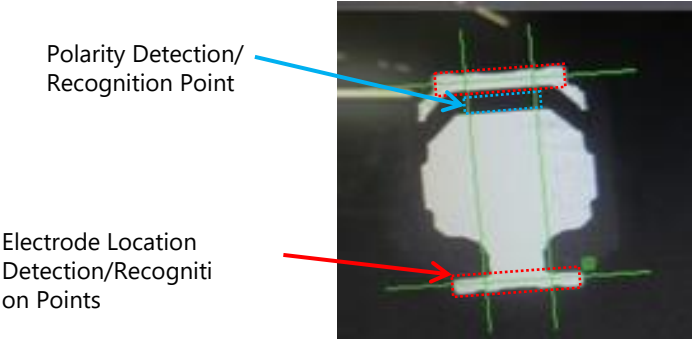

Figure 9. Recommended reference points to detect, recognize, or locate the polarity/electrodes
- If the imaging device has trouble detecting/recognizing the electrodes due to the uniqueness of the electrode pattern, adjust it to detect/recognize the outer portions of the electrodes (i.e. the areas circled in red in Figure 9 to the left).
- If an automatic polarity detector is used for the LEDs, set up the imaging device to detect the empty space between the anode and cathode electrodes (i.e. Polarity Detection/Recognition Point in Figure 9 to the left). In the example in Figure 9, the equipment measures the brightness of the empty space against the threshold to locate the electrodes and/or determine the polarity.